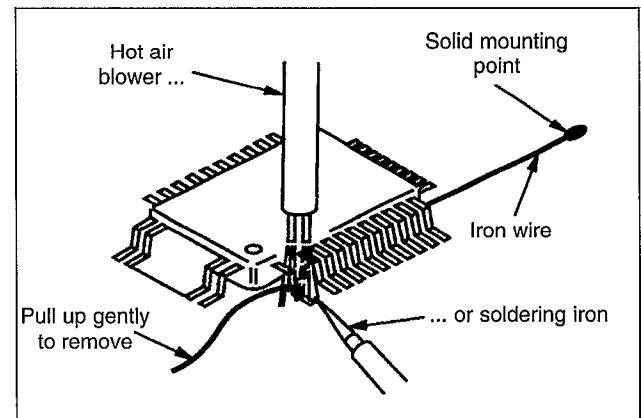

Fig. 2-8
b. Affix the wire to workbench or solid mounting point (see Fig. 2-8)